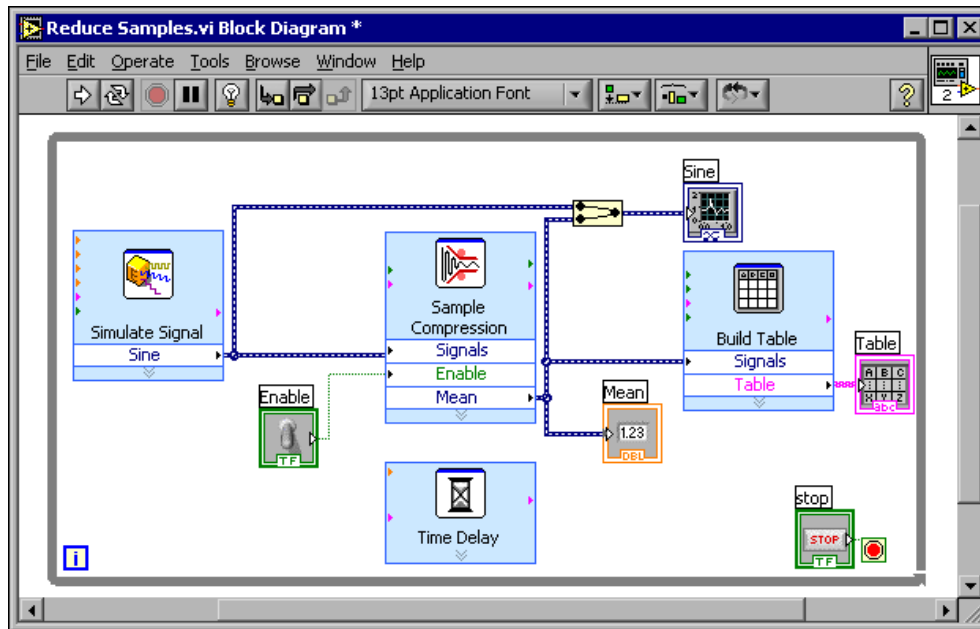

Figure 2.34
5. Using the **Wiring** tool, wire the **Mean** terminal of the **Sample Compression** Express VI to the **Signals** input of the **Build Table** Express VI. The block diagram should appear similar to Figure 2.34.